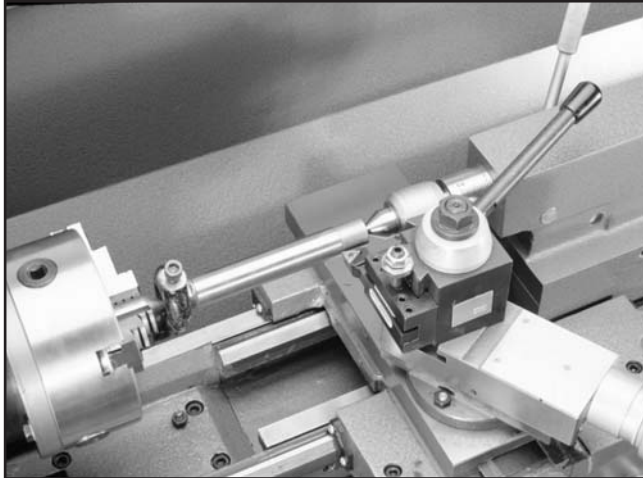

Figure 25. Bar stock mounted between centers.
5. Attach a lathe dog at the spindle end of the bar stock from **Step 2**, then mount it between the centers (see **Figure 25** for an example).